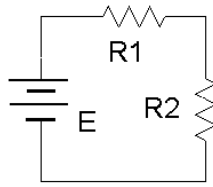

Figure 2
6. Build the circuit of figure 2 using $E=10\text{ V}$, $R_1=10\text{ k}\Omega$ and $R_2=33\text{ k}\Omega$. Connect a probe from the channel one input to the power supply (red or tip to the positive terminal, black clip to ground). Connect a second probe from channel two to R_2 (again, red or tip to the high side of the resistor and the black clip to ground).